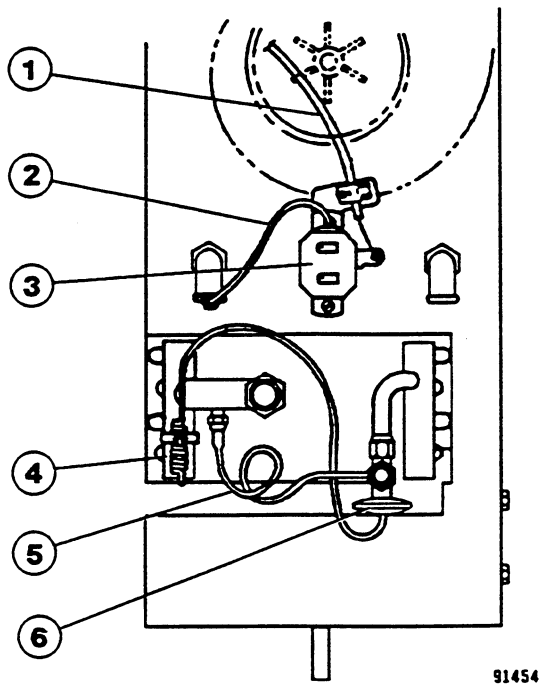

FIGURE 9-5. EVAPORATOR ASSEMBLY COMPONENTS
3. Remove hoses from expansion valve extension (7) and evaporator coil outlet (5).
5. Remove thermostat control cable (1, Figure 9-5) and wires from thermostat switch (3).
2. Connect pressure equalizing capillary tube (5, Figure 9-5) to outlet line.
3. Clamp the sensing bulb (4) to outlet manifold.